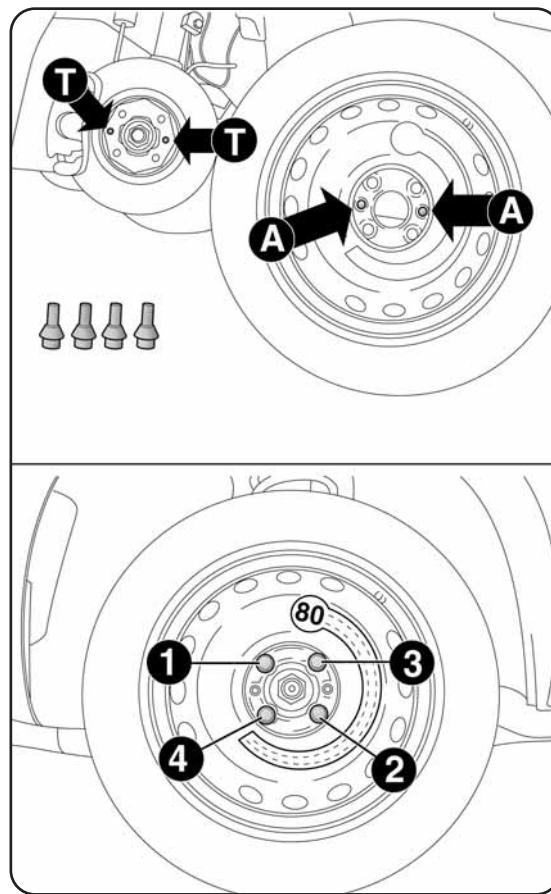

fig. 13
- fully tighten the bolts, passing alternately from one bolt to the opposite one, following the order indicated in fig. 13.